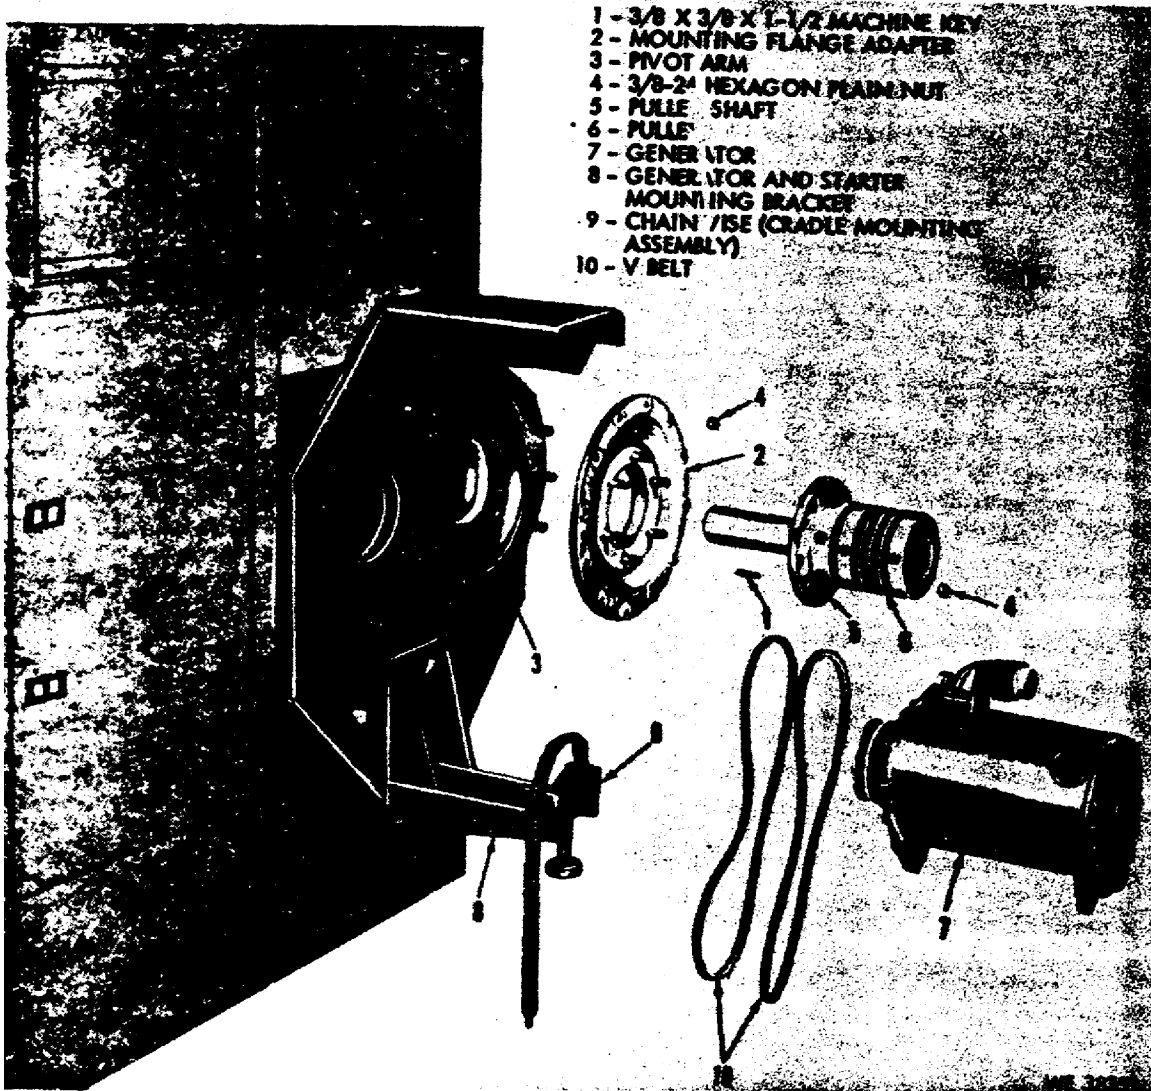

Figure 7. Mounting pulley driven generator or alternator.
(3) Pulley driven. Figure 7 shows the pulley driven mounting of a generator. Here a pulley is connected to the driving head, so the proper size of pulley must be selected to match the generator pulley (foldout 1).